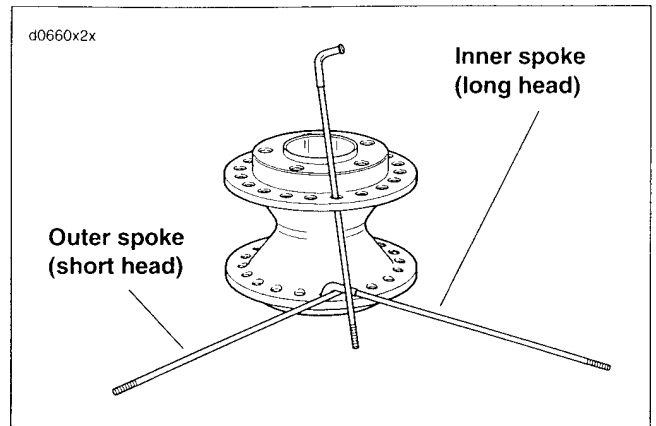

Figure 2-29. Lacing 19-in. Wheel Hub
3. See Figure 2-29. Place hub on bench with the brake disc side up. On dual-disc wheel hubs, this is the side with the cast recesses between the brake disc bolt holes. Insert one outer spoke (short head) into any bottom flange hole and swing it clockwise. Insert an inner spoke (long head) in the next hole to the left of the outer spoke. Swing the inner spoke counterclockwise over the outer spoke.